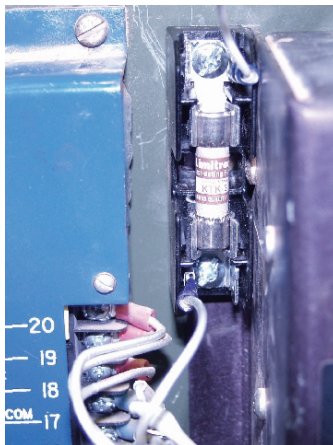

Figure 3 Lower Wire Connection
8. Install wire # 141A20 on the lower male quick disconnect terminal of the fuse holder. (Figure 3)